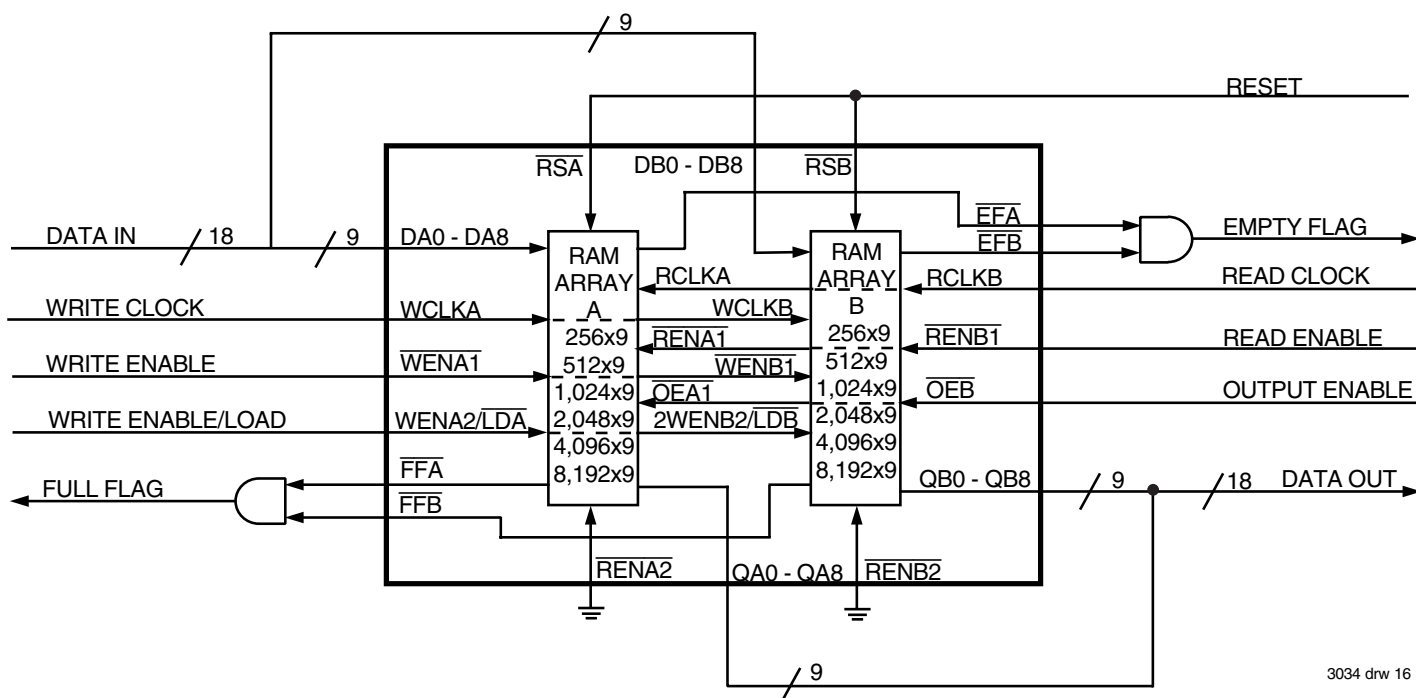

Figure 15. Block diagram of the two FIFOs contained in one IDT72801/72811/72821/72831/72841/72851 configured for an 18-bit width-expansion
**WIDTH EXPANSION CONFIGURATION** — Word width may be increased simply by connecting the corresponding input control signals of FIFOs A and B. A composite flag should be created for each of the endpoint status flags  $\overline{\text{EFA}}$  and  $\overline{\text{EFB}}$ , also  $\overline{\text{FFA}}$  and  $\overline{\text{FFB}}$ . The partial status flags  $\overline{\text{PAEA}}$ ,  $\overline{\text{PAFB}}$ ,  $\overline{\text{PAEA}}$  and  $\overline{\text{PAFB}}$  can be detected from any one device. Figure 15 demonstrates an 18-bit word width using the two FIFOs contained in one IDT72801/72811/72821/72831/72841/72851. Any word width can
When these devices are in a Width Expansion Configuration, the Read Enable 2 ( $\overline{\text{RENA2}}$  and  $\overline{\text{RENB2}}$ ) control inputs can be grounded (see Figure 15). In this configuration, the Write Enable 2/Load ( $\text{WENA2/LDA}$ ,  $\text{WENB2/LDB}$ ) pins are set LOW at Reset so that the pin operates as a control to load and read the programmable flag offsets.